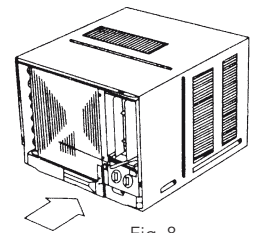

Fig. 8
- 4 Push the unit chassis into the cabinet. (see Fig.8)